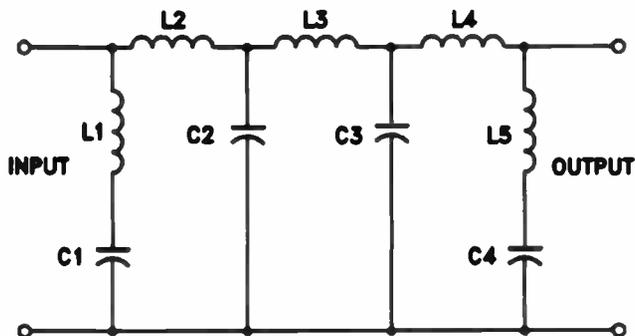

Figure 17. A low-pass filter.
**Low-Pass Filters.** An example of a low-pass filter is shown in Fig. 17. This filter is designed to pass frequencies below the cutoff frequency and to